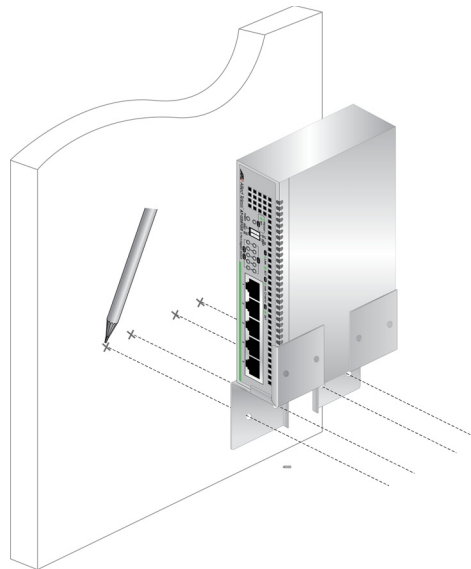

Figure 31. Marking the Screw Hole Locations
2. Have another person hold the switch with the brackets at the wall location where the switch is to be installed, while you use a pencil to mark the wall with the locations of the four holes in the brackets. See Figure 31 as an example.